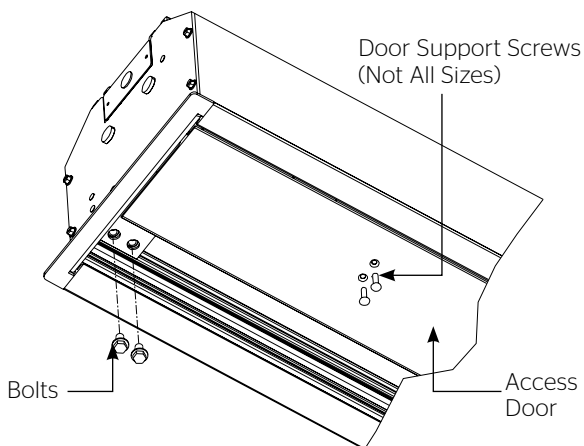

Figure 2
1. Remove four bolts from ends of door assembly (2 bolts on each end) (Fig. 2). This will allow the door assembly to drop open for access to case. For larger sizes, you will also need to remove the door support screws.
11. Close door assembly and replace four bolts at ends of door (2 bolts on each end) (Fig. 2).
3. Turn the white **"down"** limit switch (Fig. 2) one-quarter turn clockwise. Test by raising picture surface approximately two feet, then lower again. Repeat until desired picture surface position is attained.